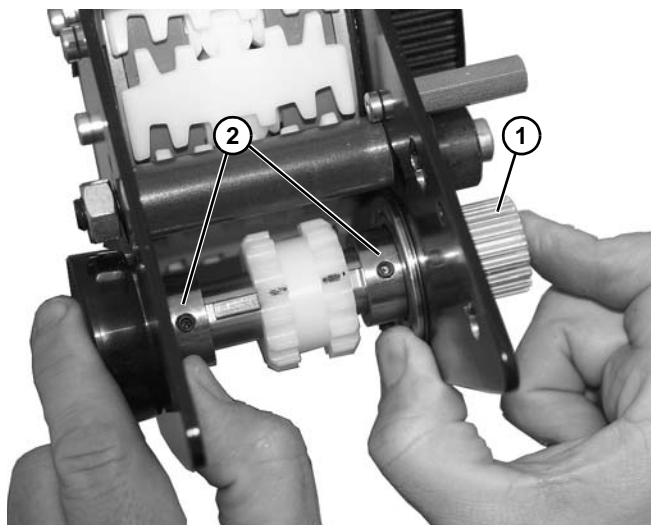

Figure 169
1. Install drive shaft (Figure 169, item 1) on two bearings (Figure 169, item 2) and press outward as shown.